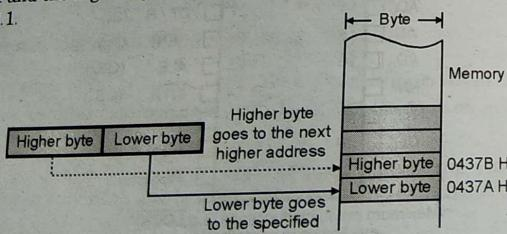

Fig. 11.8.1 : How is a word stored in the 8086 memory ?
- That means the lower byte is written into the specified memory address say 0437AH and the higher byte is written into the next higher address as illustrated in Fig. 11.8.1.